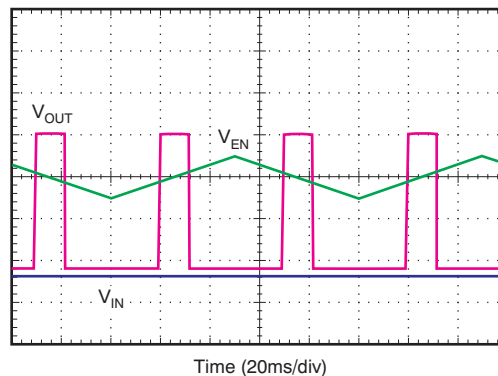

Figure 28. Enable Pin Positive and Negative Threshold
The TPS7A33 provides a dual-polarity enable pin (EN) that turns on the regulator when $|V_{EN}| > 2$ V, whether the voltage is positive or negative, as shown in Figure 28.